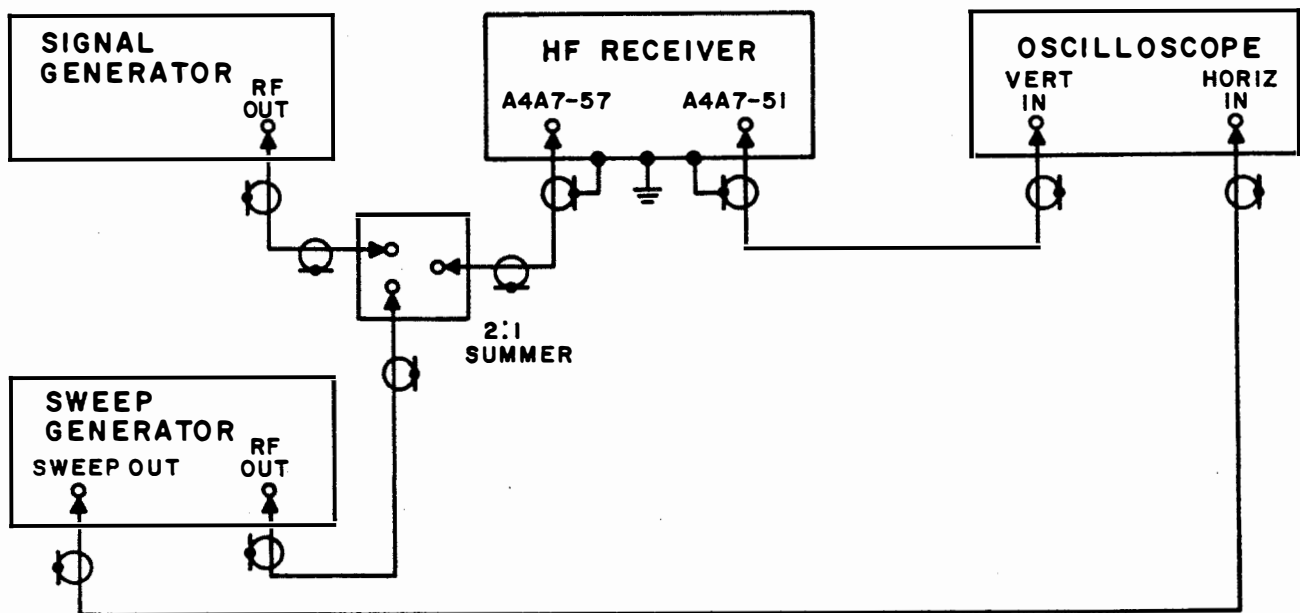

Figure 6-3. 455 kHz Amplifier/AM Detector Response Alignment, Test Setup
(1) Test equipment required. The following equipment will be required for this test, see table 6-1 for specifics:
(2) Procedures.
- (d) Connect the test equipment as shown in figure 6-3.